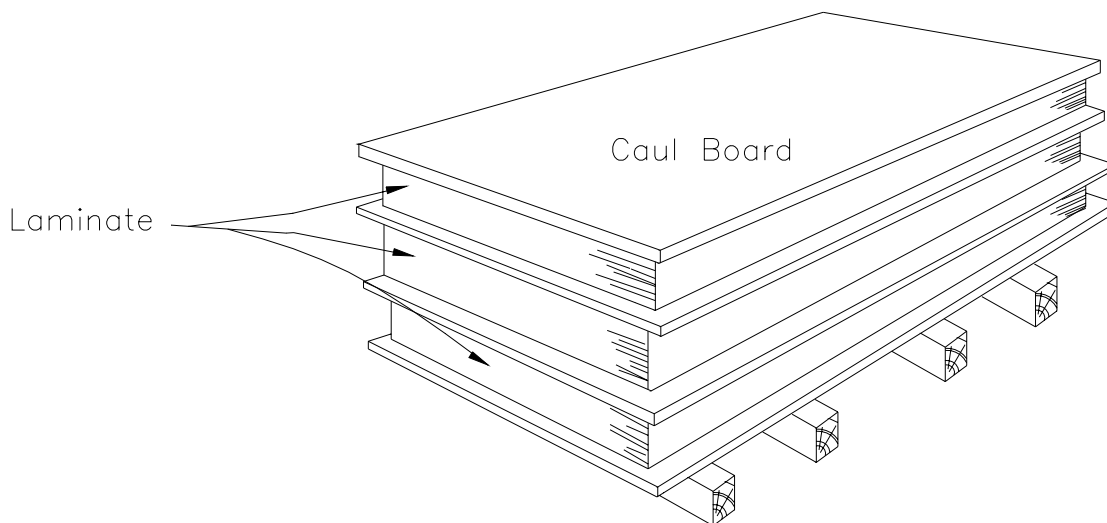

Figure A-5
- a. Storage conditions—A primary consideration of the fabricator should be the proper storage and conditioning of component materials. Both the laminate and the substrate should be conditioned for a minimum of 48 hours at a temperature between 21° to 24°C (70° to 75°F) and a relative humidity of 45% to 55% (see Figure A-5) prior to bonding.